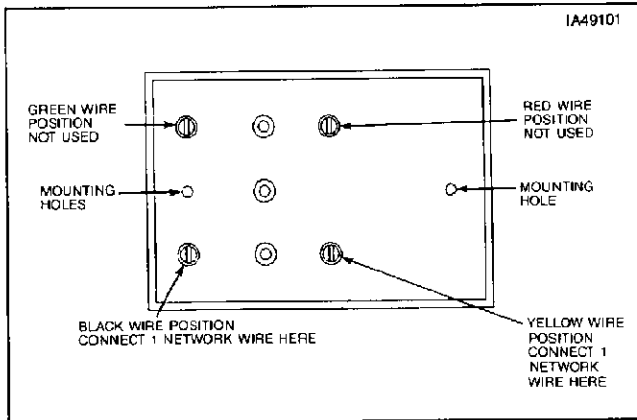

Fig. 2 Telephone Jack Assembly
- Remove the cover of the telephone jack. Attach one of the network wires to the terminal co-occupied by the yellow wire. (See Figure 2.)
3. Attach the other network wire to the terminal co-occupied by the black wire. (See Figure 2.)